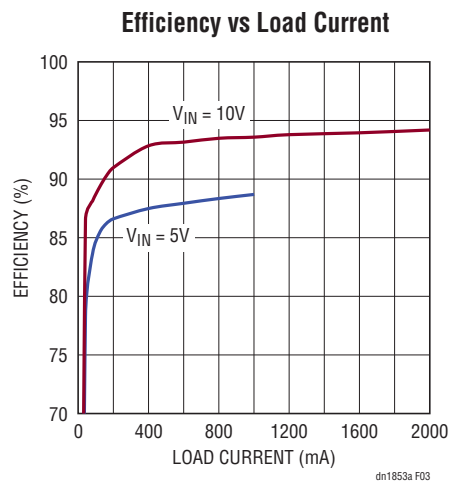

Figure 3. Efficiency with Different Input Voltages
3. Once the proper output voltage is established, adjust the input voltage and load within the operating range and observe the output voltage regulation, ripple voltage, efficiency and other parameters. Typical efficiency curve is shown in Figure 3.